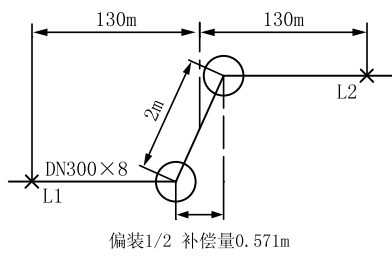

图 6
(4) Π 型组合旋转补偿器安装示意图如图6：
(4) The installation of rotating compensator of Π type combination diagram is as shown in figure 6: